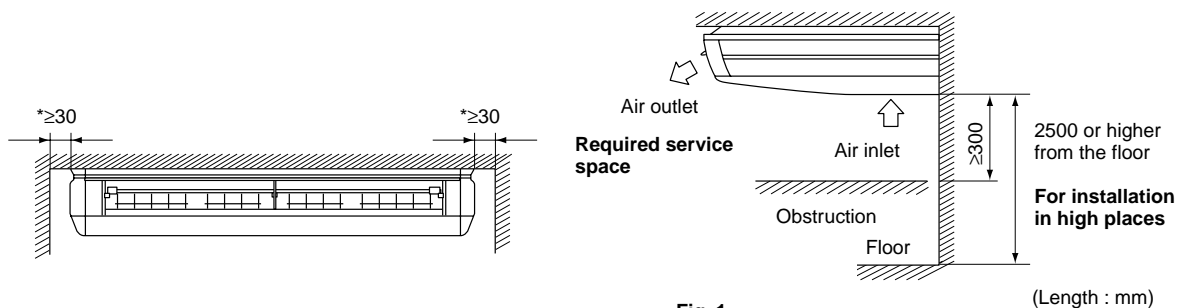

Fig. 1
(1) Select an installation site where the following conditions are fulfilled and that meets your customer's approval.
- Where sufficient clearance for maintenance and service can be ensured. **(Refer to Fig. 1)**